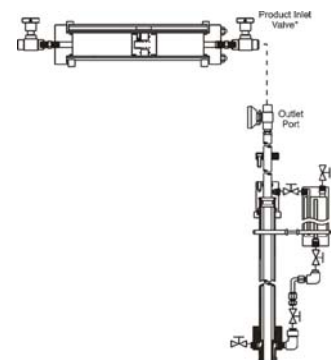

Figure 6
2. After pre-charging the cylinder above pipeline pressure (see section 2.2), connect the product inlet valve of the cylinder to the sampler outlet port (see Figure 6).